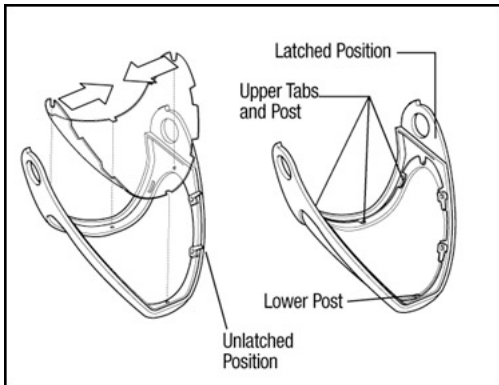

Fig. 18: Removing and Installing the Wide View Lens
- Turn all four L-shaped latches a quarter-turn (all the way against their stops), so they point toward the bottom edge of the faceshield (Fig. 18).
- Hold the headgear (or the faceshield assembly, if removed from the headgear) so the faceshield assembly is oriented as shown in Fig. 18.